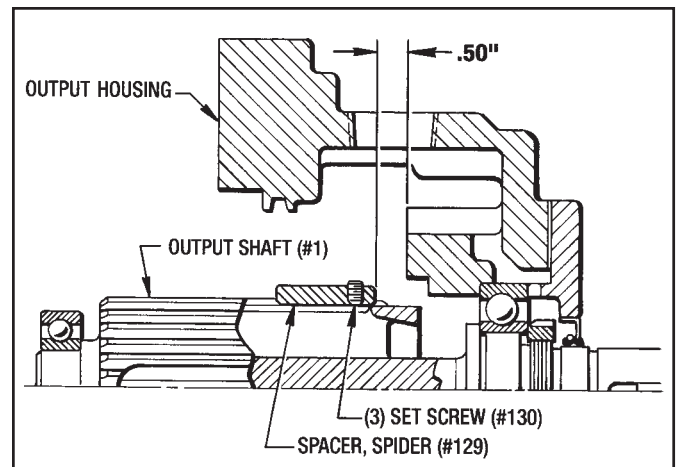

Figure 9.5 - Installing Spacer, Spider (C Logic Only)
5. Slide the Spacer, Spider (#129) on to the spline of the Output Shaft (#1). Position the end of the Spacer (#129) .50" from the face of the Output Housing. Tighten (3) Set Screws (#130). (See Figure 9.5)
6. Attach the Retainer Plate (#302) to the inside of the Output Housing with (2) Screws (#305) and (2) Lockwashers (#265) in the (2) bottom holes.